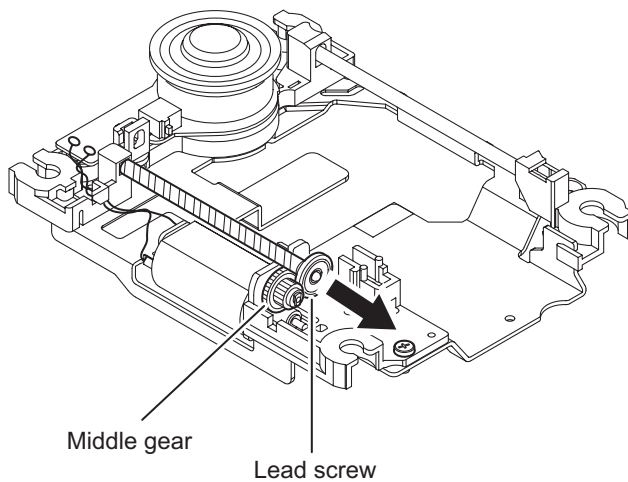

Fig.10
- (3) Remove the read screw from traverse mechanism assembly. (See Fig.10)